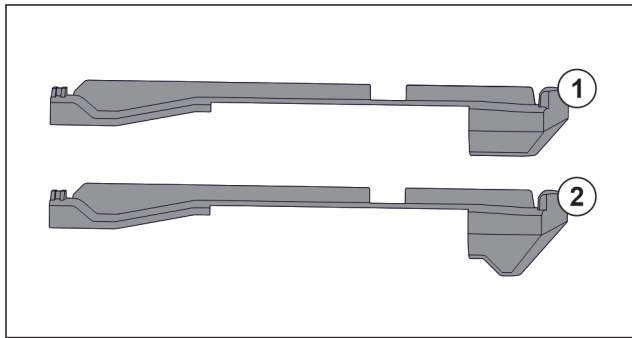

Fig. 123 Comparing attachments
There are two different attachments in the appliance. The attachment above the lowest drawer *Fig. 123 (2)* has a three-cornered edge. All other attachments *Fig. 123 (1)* have a straight edge.
- ▶ Fit attachment *Fig. 123 (2)* with the three-cornered edge above the lowest drawer.
- ▶ Fit attachment *Fig. 123 (1)* with straight edge in all other positions.